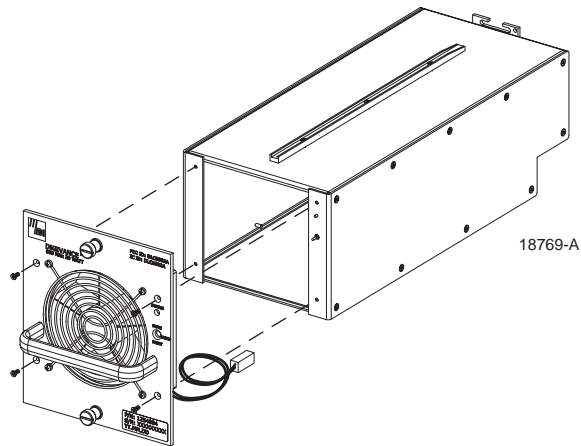

Figure 5-7. LPA Fan/Front Panel Assembly Removal
5. Remove the four Phillips-head screws that secure the fan/front panel assembly to the front of the LPA housing as shown in Figure 5-7. Save screws for reuse.